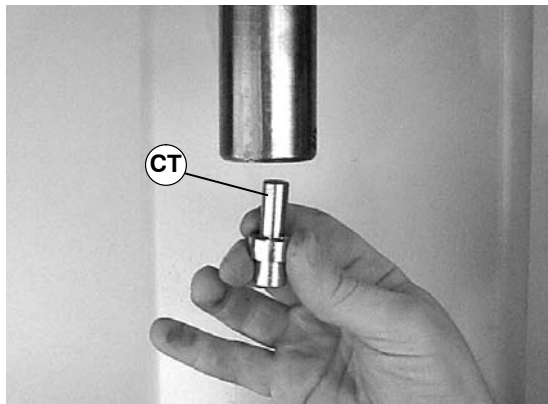

Figure 53
2. Install bearing insertion tool (part # 25-10☆) (CT of Figure 53) into arbor press or similar device.